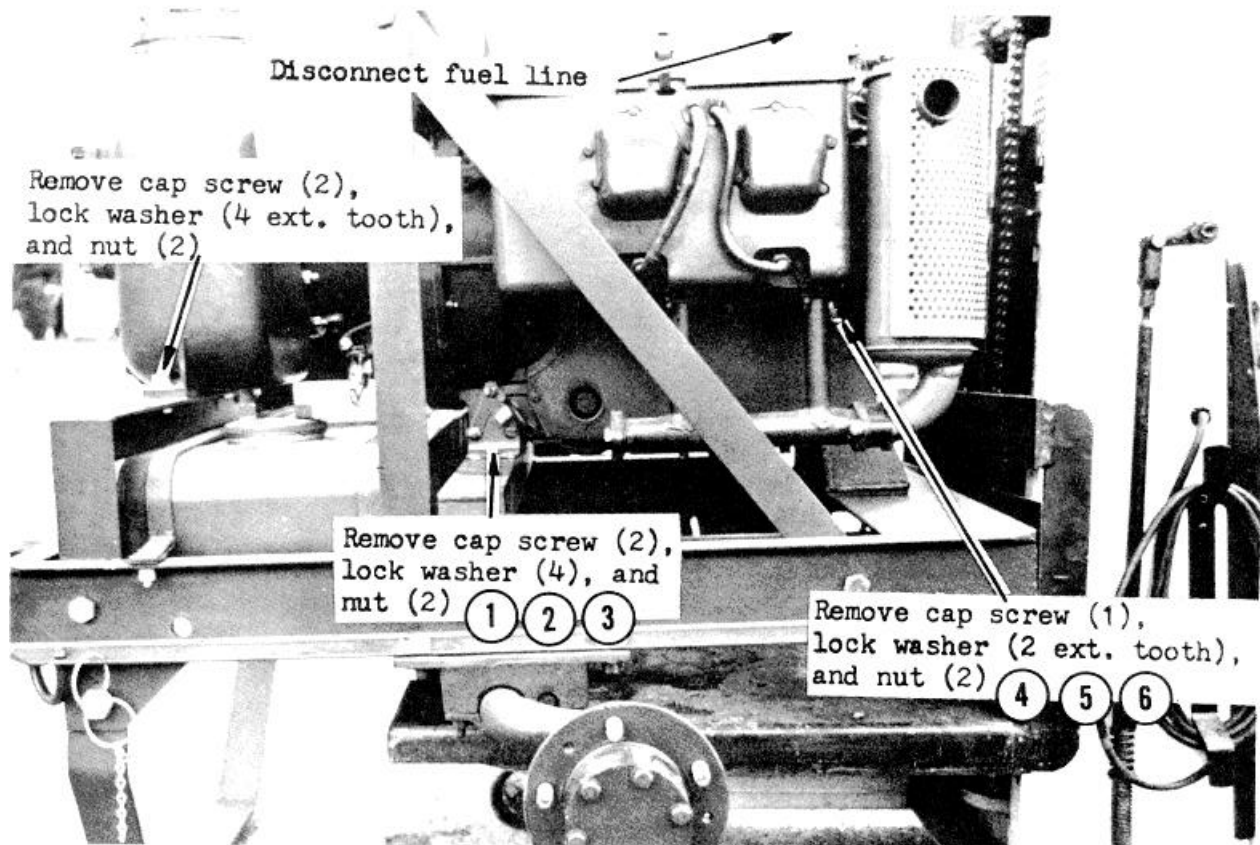

FIGURE 3-13. REMOVAL OF MAJOR COMPONENTS
- a. Removal - Refer to Fig. 3-13 and remove the engine. Remove the three cap screws, six lock washers, and three nuts which secure the front engine bracket to the frame.
2. Disconnect the fuel line (Fig. 3-13).
5. Refer to Fig. 3-13, remove the mounting hardware, and lift the engine and pump assembly from the trailer.
1. Position the engine and pump assembly on the trailer frame, and install the mounting hardware as shown in Fig. 3-13.
4. Connect the fuel line (Fig. 3-13).